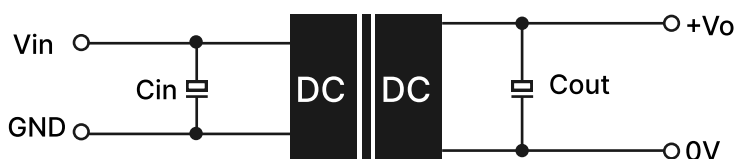

Figure 1: Application circuit
C3/C4	Refer to the Cout in Fig.1
1. Typical application: If further reduction of input and output ripple is required, a capacitor Filter network can be connected at the input and output ends. The application circuit is shown in Figure 1. However, suitable Filter capacitors should be selected. If the capacitance is too large, it may cause overcurrent or poor startup of the power supply. For each output, while ensuring safe and reliable operation, the recommended capacitance load values are shown in Table 1.